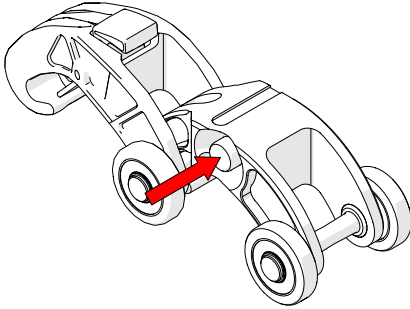

Fig. 50 - Press red button
1. Press the button on the side of the Dovetail QuickLink (*Fig. 50*).